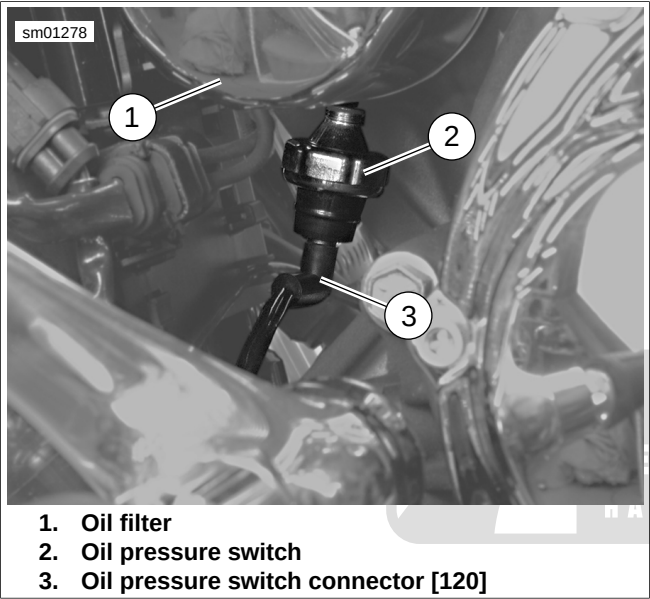

Figure 6-133. Oil Pressure Indicator Lamp Switch (Left Side View XL 1200C)
See Figure 6-133. The oil pressure switch is located under the oil filter mount at the front of the engine crankcase.
2. See Figure 6-133. Remove wiring harness connector [120] (3) by pulling elbow connector straight down from stud on oil pressure switch (2).
3. See Figure 6-133. Install oil pressure switch (2). Using OIL PRESSURE SENDING UNIT WRENCH (Part No. HD-41675), tighten switch snugly. DO NOT OVERTIGHTEN.